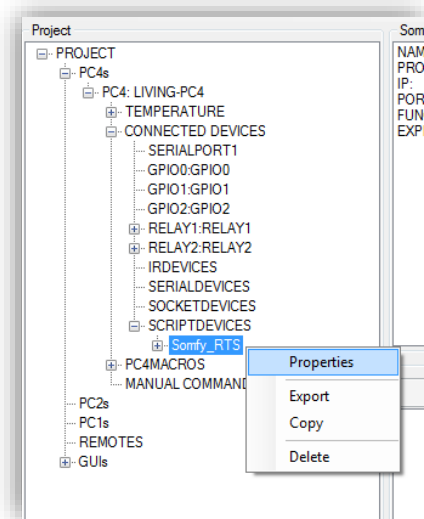

Figure 6 - Configuring device parameters: right click the device and select properties
- Right click on the newly added script device, and select “Properties”. *Refer to Figure 6*
1. Right click on the Somfy RTS script device and select properties (see Figure 6)